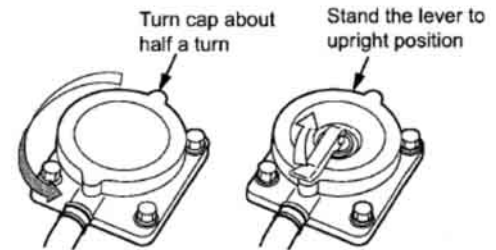

Fig.6.2. Radiator cap
- Look at the water level by opening the radiator tap. If it is inadequate add more water. Look Fig. 6.2 , Fig. 6.3 , Fig. 6.4